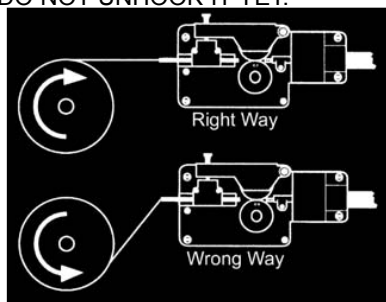

Figure 7. Wire Installation
4. Place the spool on the spindle in such a manner that when the wire comes off the spool, it will look like the top illustration in Figure 7. The welding wire should always